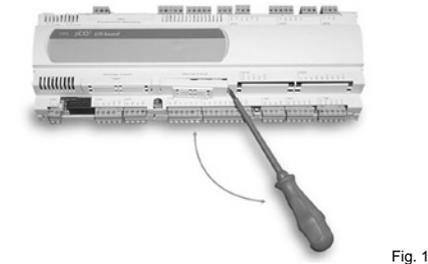

Fig. 1
1. con un cacciavite, togliere lo sportellino "serial card" del controllore elettronico (vedi Fig. 1);
To install the card in the pCO2 unit respect the following instructions (Fig. 1+4):
1. remove the "serial card" placement cover with a screwdriver (Fig. 1);